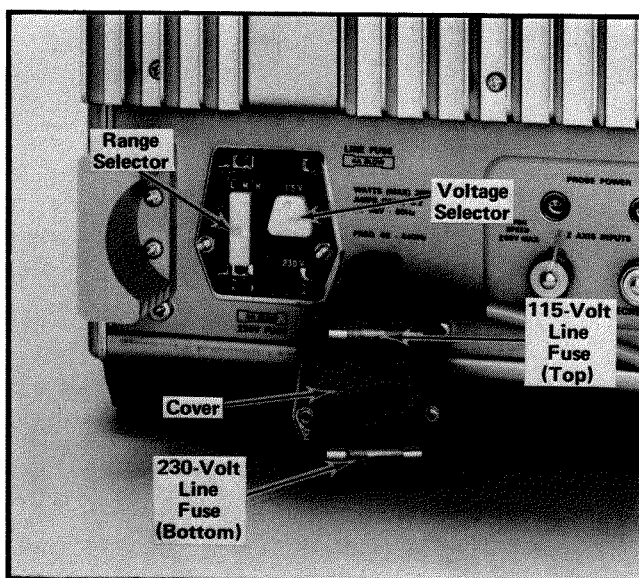

Fig. 2-1. Line Voltage Selector assembly on rear panel (shown with cover removed).
3. To convert from 115-volts to 230-volts nominal line voltage, or vice versa, pull out the Voltage Selector switch bar (see Fig. 2-1); turn it around 180° and plug it back into the remaining holes. Change the line-cord power plug to match the power-source receptacle or use a 115- to 230-volt adapter.
4. To change regulating ranges, pull out the Range Selector switch bar (see Fig. 2-1); slide it to the desired position and plug it back in. Select a range which is centered about the average line voltage to which the instrument is to be connected (see Table 2-1).